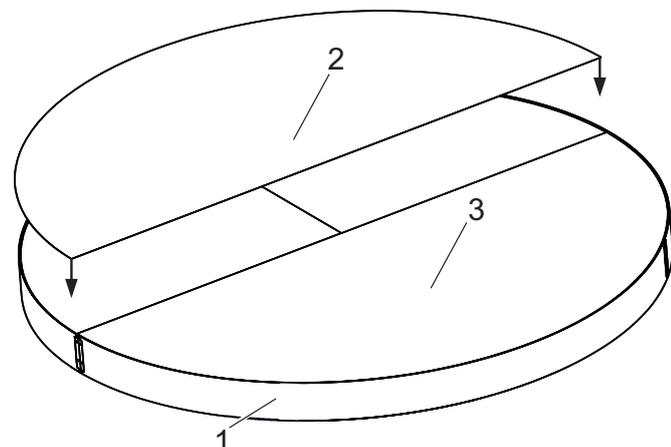
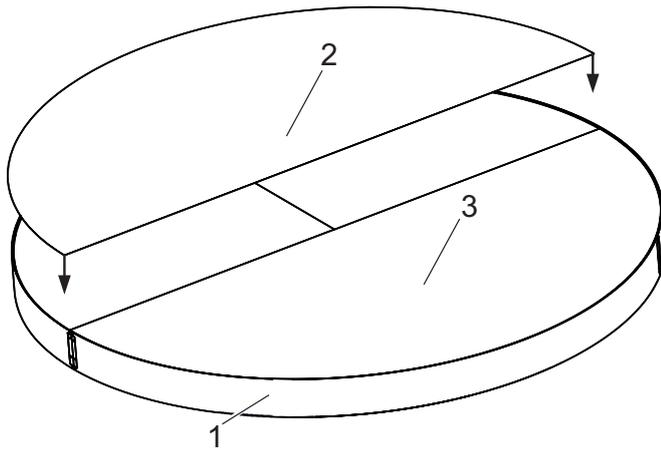

Fig. 152 Assembling upper ceiling metal sheet
Fig. 153 Assembling metal upper ceiling with rain-proofing
Spread adhesive for first upper ceiling metal sheet (Fig. 152/2) evenly over the contact surface. Depending on working height, use stepladder or platform.
2. Position 1st upper ceiling sheet (Fig. 152/2) onto adhesive surfaces on upper ceiling (Fig. 152) Depending on working height, use stepladder or platform.
3. Spread adhesive for 2nd upper ceiling sheet (Fig. 152/3) evenly over the contact surface. Depending on working height, use stepladder or platform.
4. Position 2nd upper ceiling sheet onto adhesive surfaces on upper ceiling (Fig. 152/3). Depending on working height, use stepladder or platform.
5. Position profile for connection to the façade on upper ceiling (Fig. 152) in accordance with customer specifications and glue in place.
Glue upper ceiling plate (Fig. 153/2) for outside of building evenly at several points to outside of wooden upper ceiling (Fig. 152). Check alignment with connection to the façade as you do so. Depending on working height, use stepladder or platform.
4. Position profile for connection to the façade on upper ceiling (Fig. 153) in accordance with customer specifications.